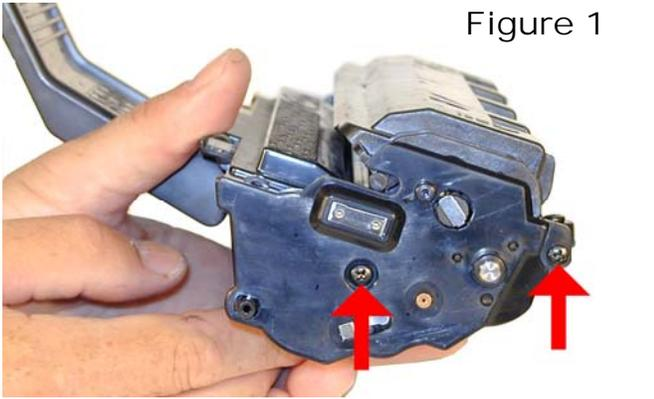

Figure 1
1) Place the cartridge with the handle facing away from you. Remove the 2 screws on the left end cap. See **Figure 1**